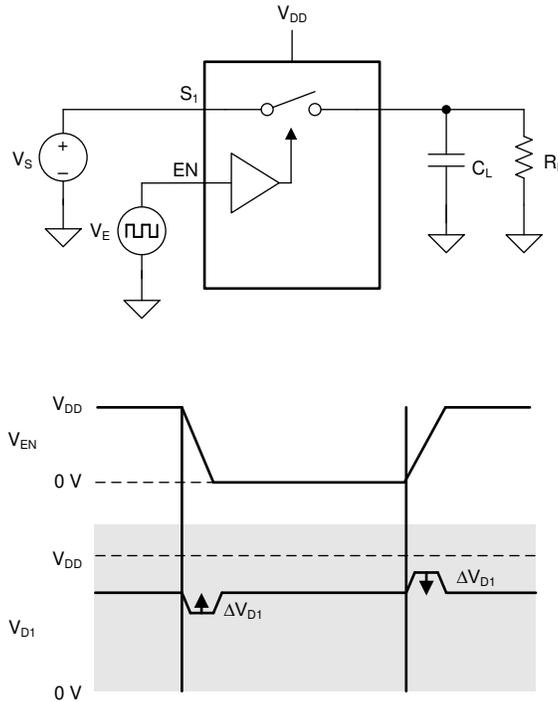

Figure 3-3. Charge Injection
- Charge injection (Q_C) – This is the measurement of unwanted coupling from the control pin into the signal switch. The charge induced by switching the inputs high or low will be seen on the signal switch. Charge injection is measured in Coulombs (C). While the charge injection occurs the signal on the data path will not be reliable, slowing down your sampling rate. This is illustrated for clearer understanding in Figure 3-3.